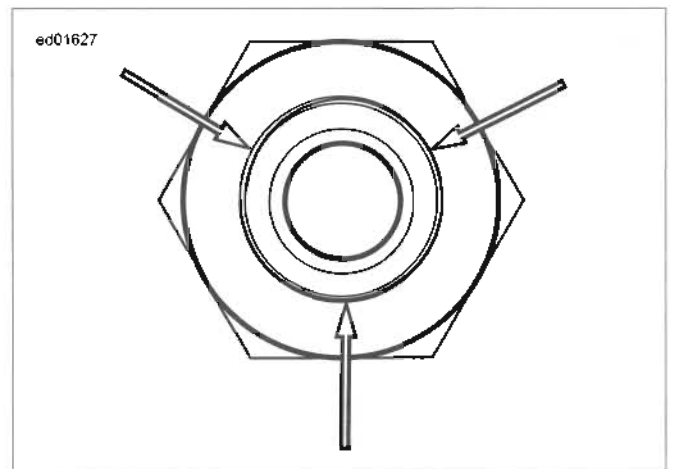

Figure 7-73. Three Dots of LOCTITE 246 MEDIUM STRENGTH/HIGH TEMPERATURE THREADLOCKER (blue)
3. See Figure 7-73. Apply three equally spaced dots of LOCTITE 246 MEDIUM STRENGTH/HIGH TEMPERATURE THREADLOCKER (blue) on threads.